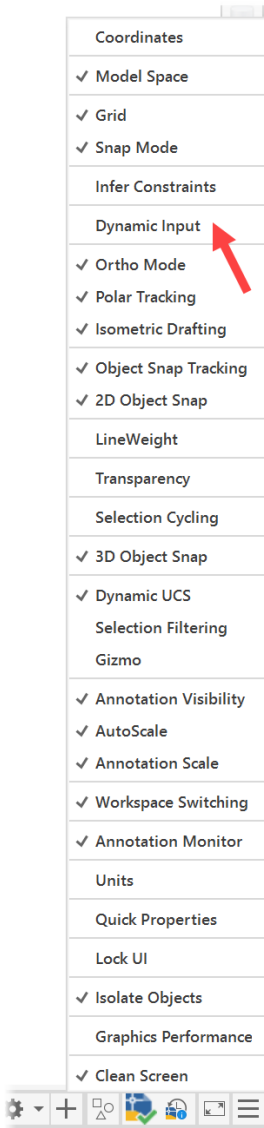

Figure 3.20: The status bar customization menu
*Figure 3.20* shows the menu when you click on the hamburger icon. As you can see, it is a long list!
To customize the status bar in AutoCAD for Mac, you would need to click on the gearwheel icon at the bottom left of the AutoCAD for Mac application window. This displays a similar menu to the one in *Figure 3.20*. The list of drafting settings is shorter, and each has a checkbox next to it to switch settings on and off, unlike the Windows version of AutoCAD, where you click on the setting name to toggle it on or off and display a check mark. To close the menu in AutoCAD for Mac, you will need to click on the gearwheel icon again.
Note in *Figure 3.20* that **Dynamic Input** is arrowed. The **Dynamic Input** drafting setting does not have a check mark next to it, indicating that it is not currently displayed on the status bar. Clicking **Dynamic Input** on the menu will switch it on, and a check mark will appear next to the setting name.